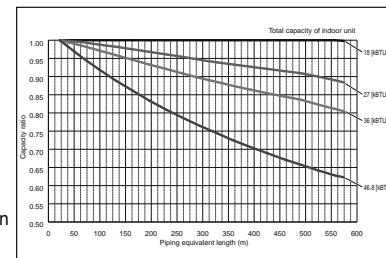

Figure 3 Correction of refrigerant piping length
- Piping Length Correction (250 ft) **0.93 (Refer to Figure 3)**